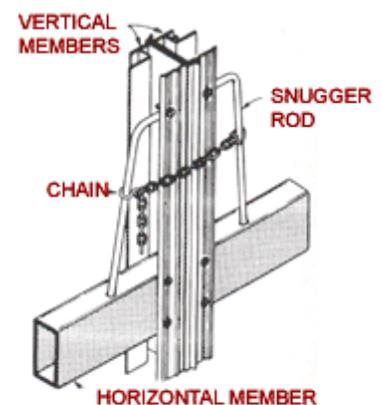

FIGURE 13
4.) Secure opposite end of snugger rod to vertical member using one (1) 1/4" fastener and nut. **Fig. 13**
9.) After making certain the "S" hook is in the proper link (latched chain should be about 6" from top of horizontal member), close the "S" hook slightly so it will become detached from chain **Fig.13.**